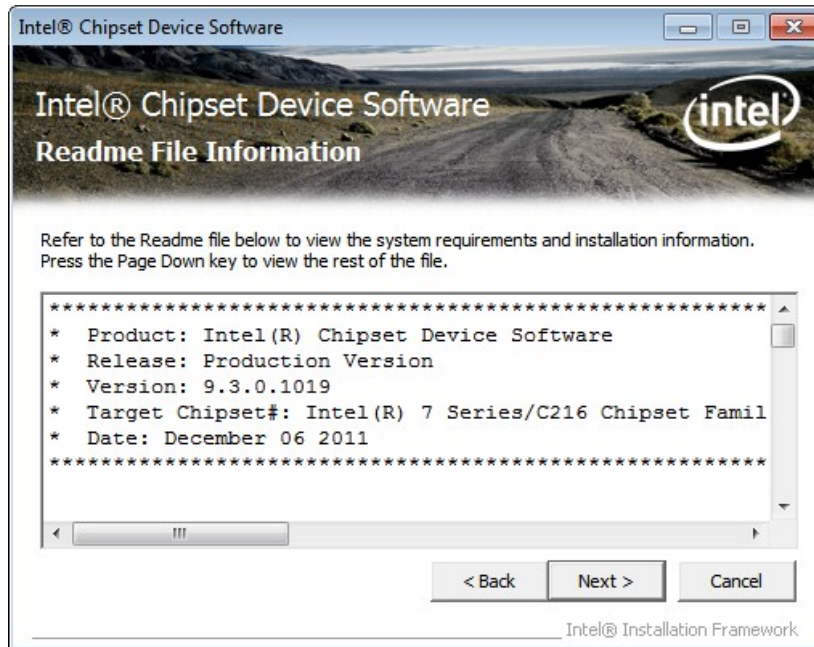

Figure 6-4: Chipset Driver Read Me File
Step 9: The **Read Me** file in **Figure 6-4** appears.